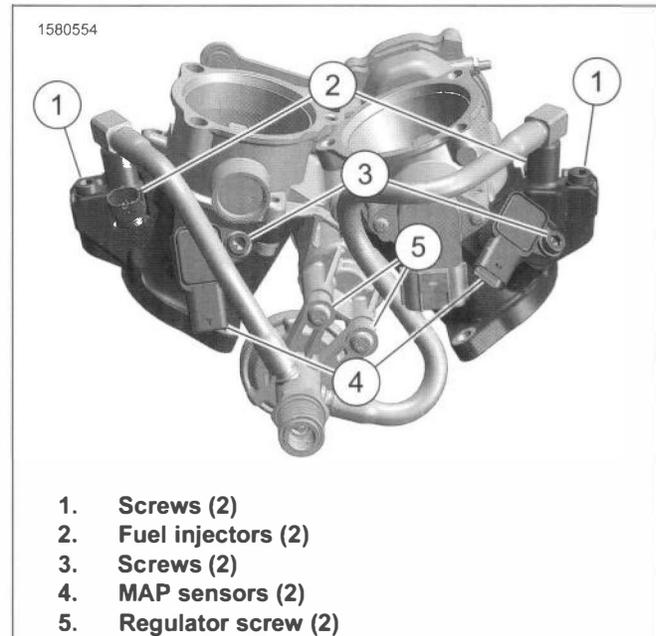
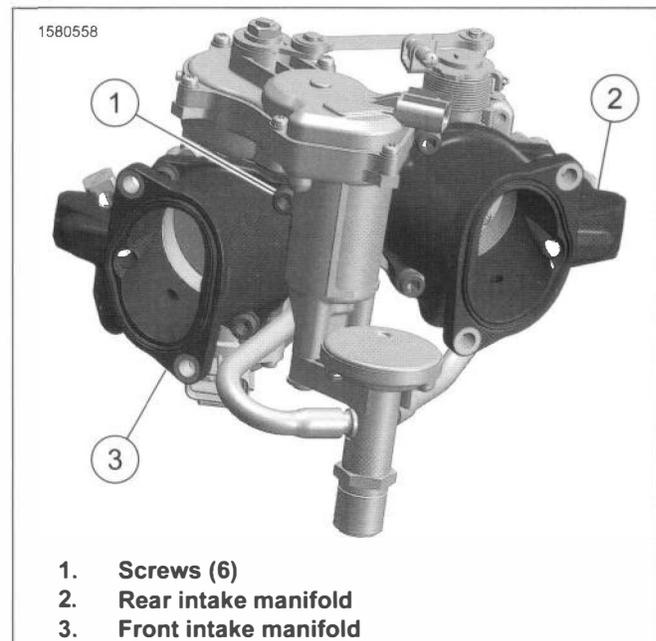

Figure 6-32. Intake Manifold Assembly
Figure 6-33. Intake Manifolds
1. See Figure 6-32. Remove regulator screws (5).
2. Remove screws (1) and fuel injectors (2).
3. Remove screws (3) and MAP sensors (4).
4. See Figure 6-33. Remove screws (1) and intake manifolds (2, 3).
1. See Figure 6-33. Install intake manifolds (2, 3) and screws (1). Tighten.
2. See Figure 6-32. Install MAP sensors (4) and screws (3). Tighten.